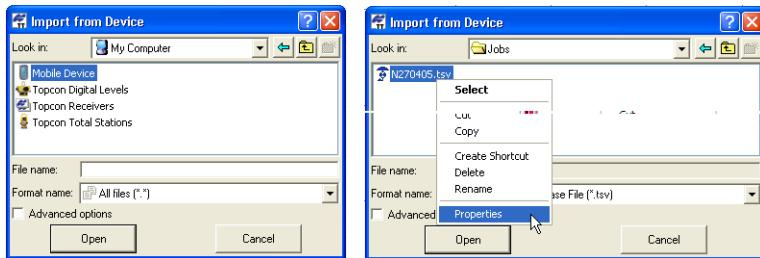

Figure 3-38. Connected Device(s) and Device Properties
- Once Microsoft ActiveSync establishes a connection with the controller, double-click **Mobile Device** in the *Import from Device* dialog box (Figure 3-38).